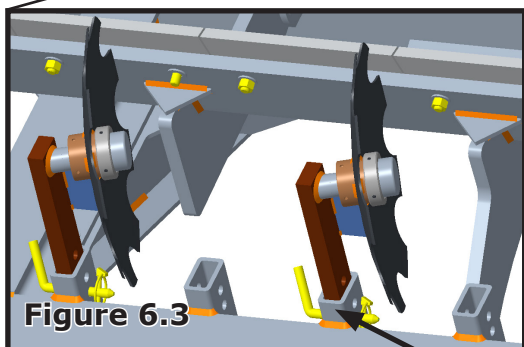

Figure 6.3
- Recommend pinning hole in disc shank, farthest from disc, into 2nd hole from the bottom of the pocket. (Figure 6.3)